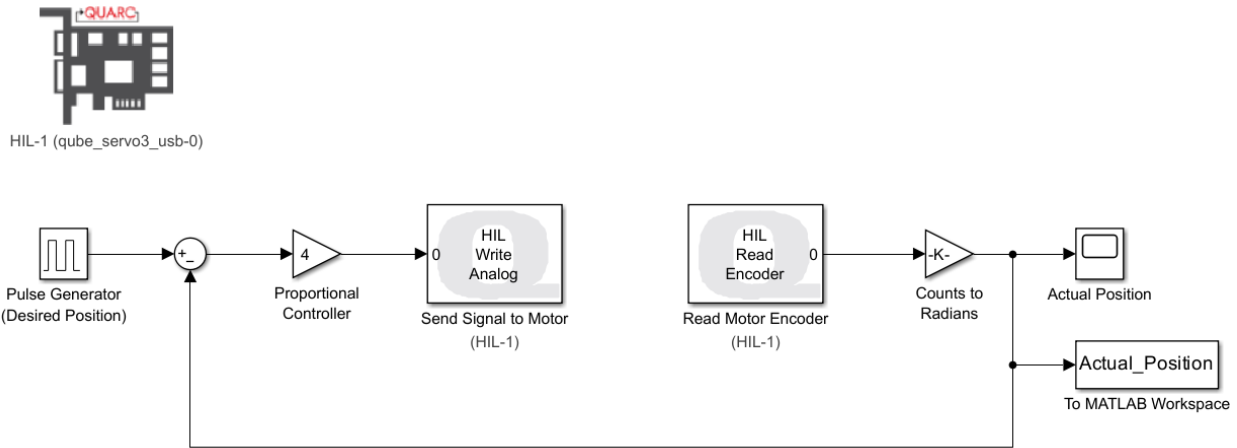

Figure 4: Target Simulink Model for Experiment 1.
- iv) When you are done building your model by following Figure 1, it should look like the target model shown in Figure 4. **STOP and Note:** Remember from Lab 1 that the output of the *Read Encoder* block is in *Counts*. **You must convert *Counts* to *Radians*** by using a *Gain* block at the output of the *Read Encoder* block as shown in Figure 4. **You must also ensure** that the *Sum* block subtracts to ensure negative feedback. Set its *List of signs* as | +-. **Failure to do these steps may lead to damaging your motor.**
- vi) Open the *Gain* block representing the *Proportional Controller* (see Figure 4) and set its *Gain* to 4, i.e., $K = 4$. This gain value will lead to an under-damped system (second-order) which is what we want. This *Gain* block is your controller for this lab, i.e., we are using a *proportional* controller.
- vii) Open the *Gain* block at the output of the *Read Encoder* block which is meant to convert *Counts* to *Radians* (see Figure 4). Set its gain so that it receives *Counts* at its input and outputs position in *Radians* (Hint: You have already done this in Lab 1; Double-check with the TAs if you are not sure; Remember it is better to check).